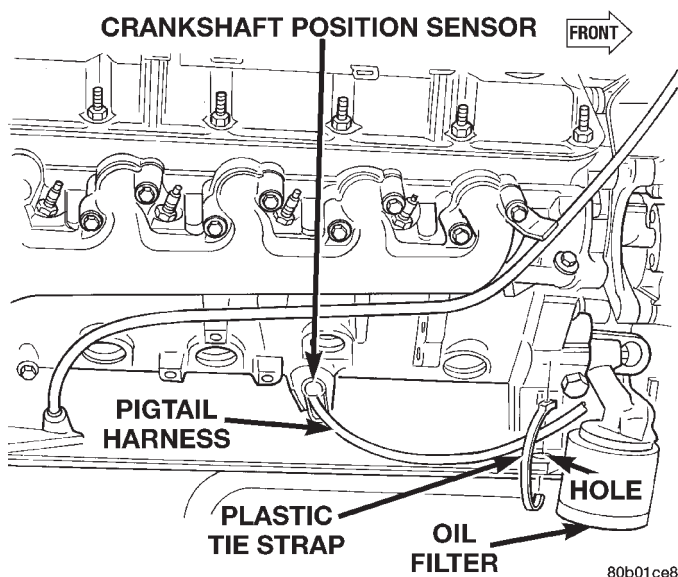
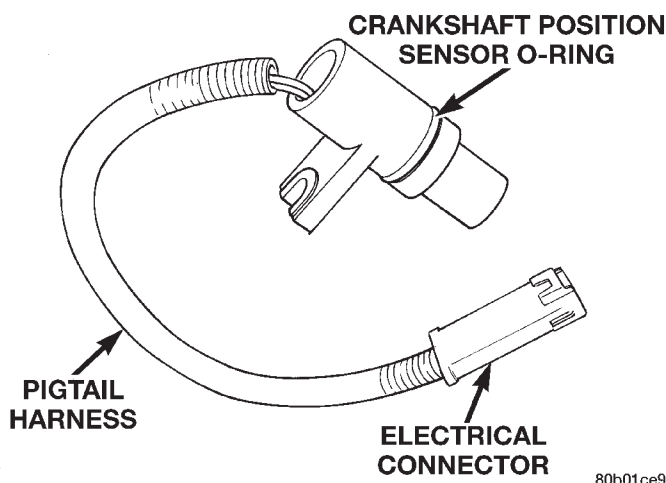

Fig. 47 Crankshaft Position Sensor Location—8.0L V-10 Engine
Fig. 49 Sensor O-Ring—8.0L V-10 Engine
The crankshaft position sensor is located on the right-lower side of the cylinder block, forward of the right engine mount, just above the oil pan rail (Fig. 47).
- (4) Cut plastic tie strap (Fig. 47) securing sensor pigtail harness to side of engine block.
- (5) Carefully pry sensor from cylinder block in a rocking action with two small screwdrivers.
- (6) Remove sensor from vehicle.
- (7) Check condition of sensor o-ring (Fig. 49).
- (1) Apply a small amount of engine oil to sensor o-ring (Fig. 49).
- (2) Install sensor into cylinder block with a slight rocking action. Do not twist sensor into position as damage to o-ring may result.
- (3) Install mounting bolt and tighten to 8 N·m (70 in. lbs.) torque.
- (4) Connect sensor pigtail harness to main engine wiring harness
- (5) Install new plastic tie strap (Fig. 47) to secure sensor pigtail harness to side of engine block. Thread tie strap through casting hole on cylinder block.